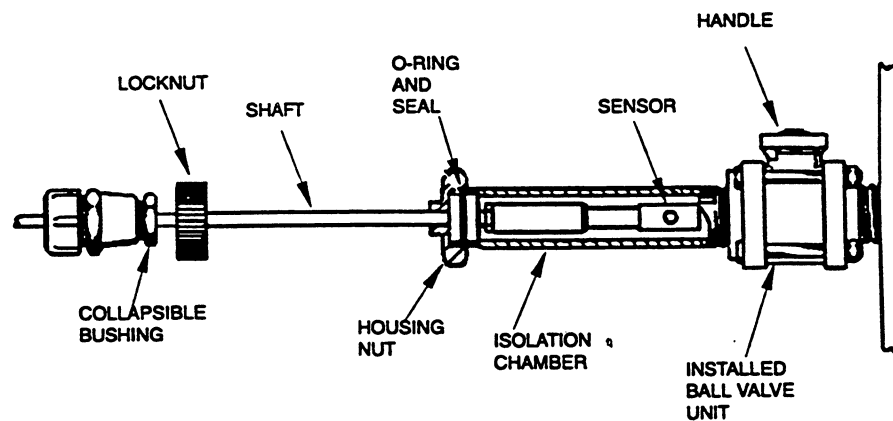

Figure 7. Ball Valve Assembly Shaft Installation
3. Insert the sensor into the housing isolation chamber until the O-ring and seal are seated into the end of the isolation chamber (see Figure 7).
5. Slowly turn the handle on top of the ball valve unit (see Figure 7) to the open position (indicated by an arrow on top of the handle).